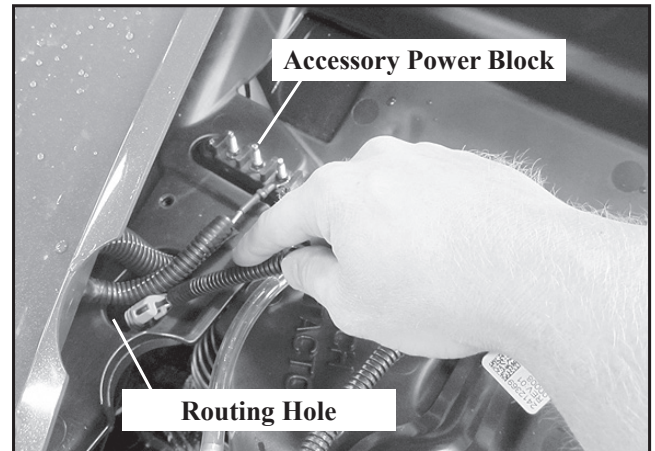

Figure 2
- a. Route the plug of the P/N 2412369 control harness (#3) through the right hand routing hole found under the center hood of the unit as shown in *figure 2*.